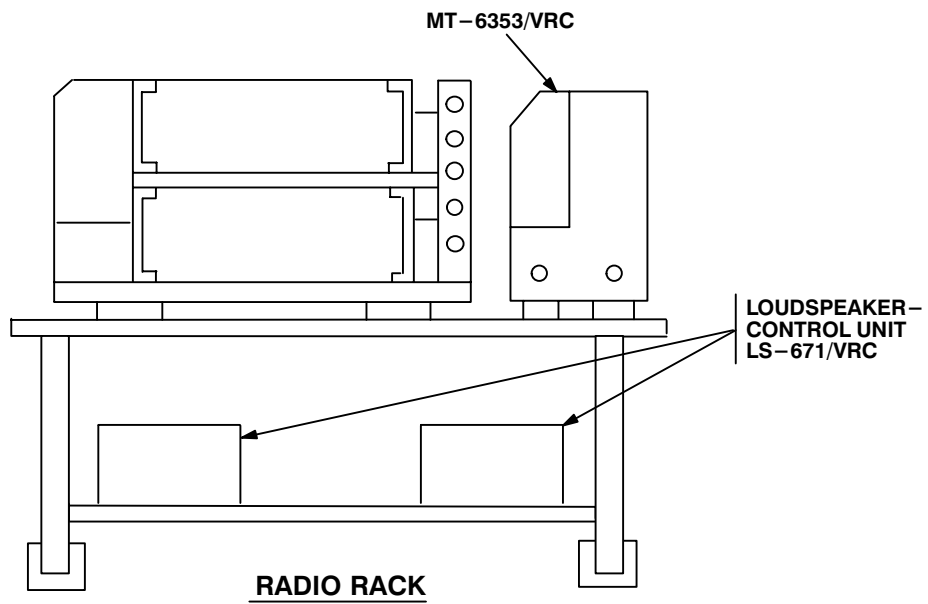

Figure 5-1 (2). MK and Radio Installation: Radio Equipment Locations
5.1 Installation of Antenna AS-3900/VRC (antenna). Use the following procedure to install both antennas. See figure 5-1 (1) for locations.